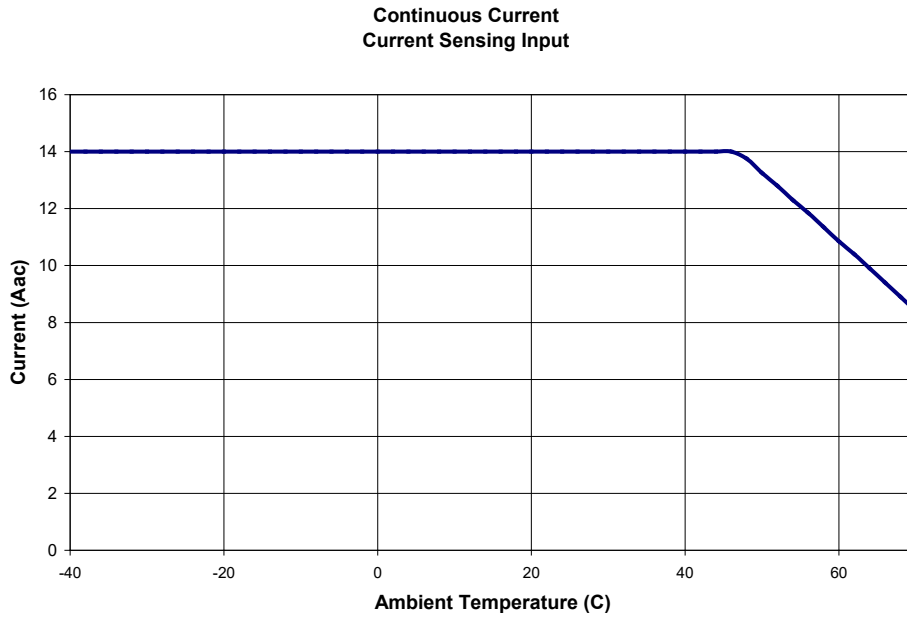

Figure 6-1. Current Sensing Input Derating Curve (BE1-50/51B-235)
* Continuous rating is 14 Aac for temperatures up to 45°C. See Figure 6-1 for derating curve.